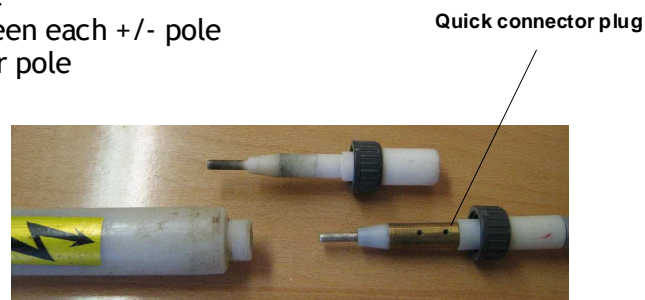

Fig. 19: Check continuity for SBS42
- Check continuity shown in Fig. 19